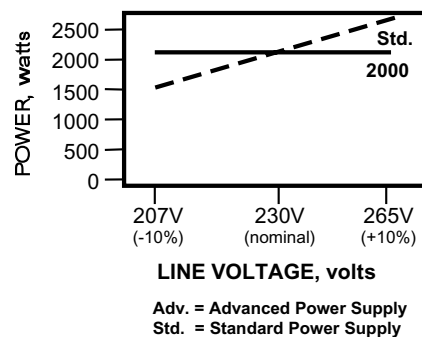

Figure 2. Constant Amplitude/Power
- **Line Regulation** - Output amplitude is maintained with a variation of only  $\pm 2\%$  with line voltage variations of  $\pm 10\%$ , providing the function of a constant voltage transformer. This corrects for variations due to power source fluctuations (Figure 2) through closed loop amplitude control. It ensures constant power in welding, and provides greater weld consistency and reliability.